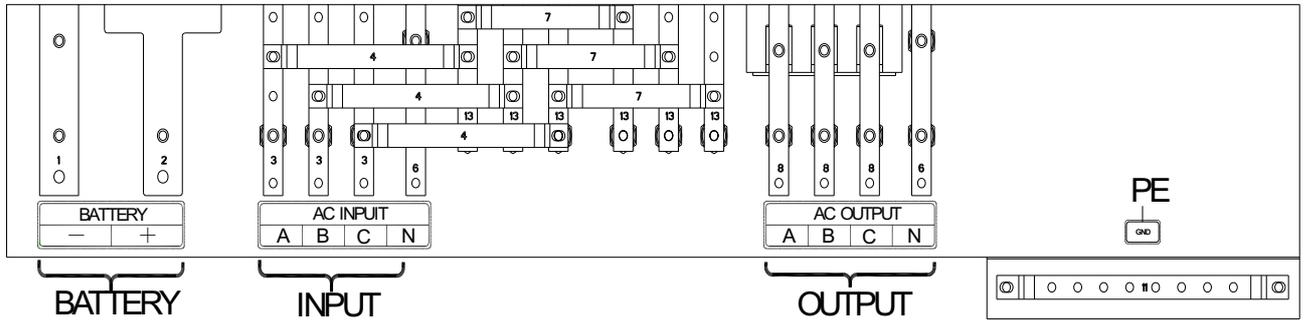

Fig.3-4 Connection of Terminals
- 2) Please connect Input, output and batteries as Fig.3-4. When you connect batteries, Don't be reverse between positive and negative